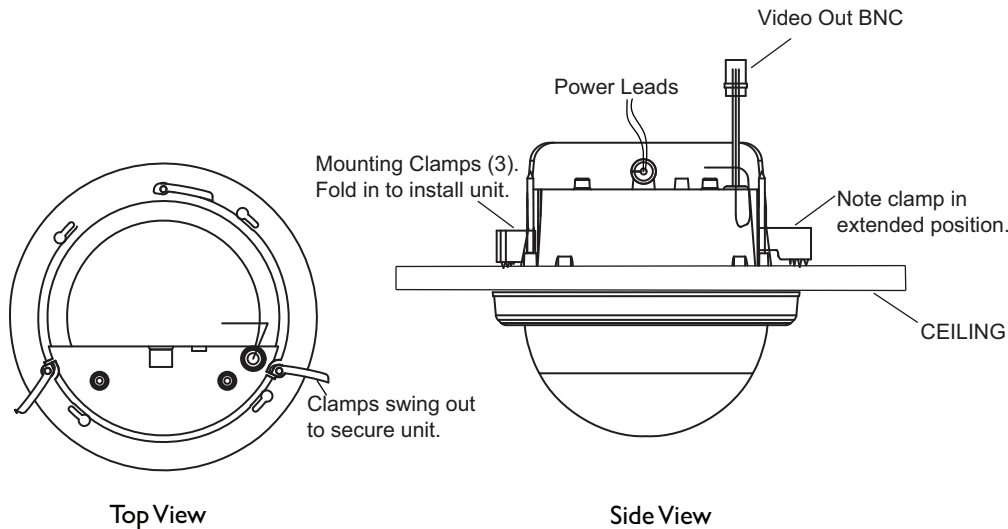

Figure 1 Ceiling Mount Power & Video Connections
1. Use 2 pencils or a pencil and nail with provided template to cut a 146 mm (5.75-inch) diameter hole in the ceiling where required. The template is found in of the shipping carton, labeled "Install Tool". Connect low voltage power and video (see **Figure 1**).
3. Route power/video cables to the terminal block and BNC connector located on the back of the housing and make proper connections. See **Figure 1**.
4. Route power/video cables to the terminal block and BNC connector located on the back of the housing and make proper connections (see **Figure 1**).